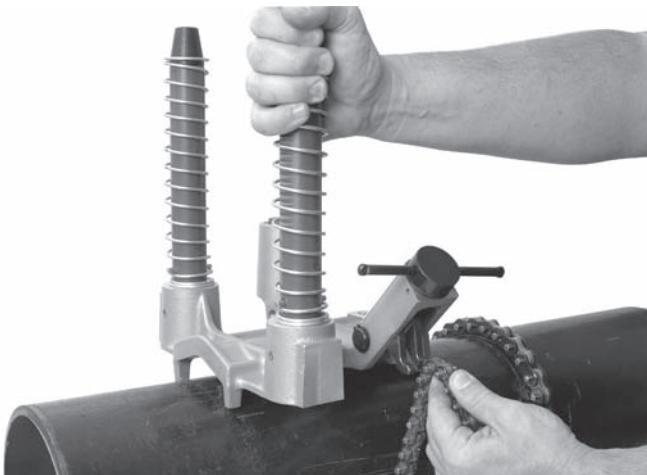

Figure 8 – Hooking the Chain
- Always keep at least one hand on the base assembly to stabilize and guide it. Grasp the end of the chain and pull it snugly around the pipe. As you pull on the chain, a spring is compressed at the attachment end of the chain. Hook the closest chain pin on the chain hook – the spring tension will help keep the chain engaged with the chain hook. Firmly tighten the crank screw assembly to hold the base assembly to the pipe. (See Figure 8.)